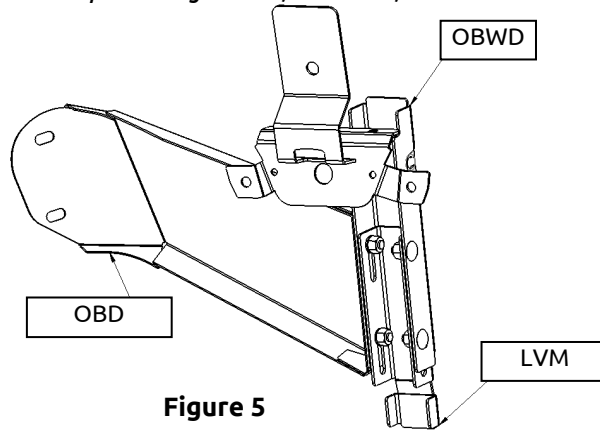

Figure 5
- iii. Place OBD on the driver's (outer) side of the OBWD and the OBP on the passenger (outer) side of OBWP and assemble using (4) 1/4-20x5/8 carriage bolts, locknuts, and flat washers (see figure 5).